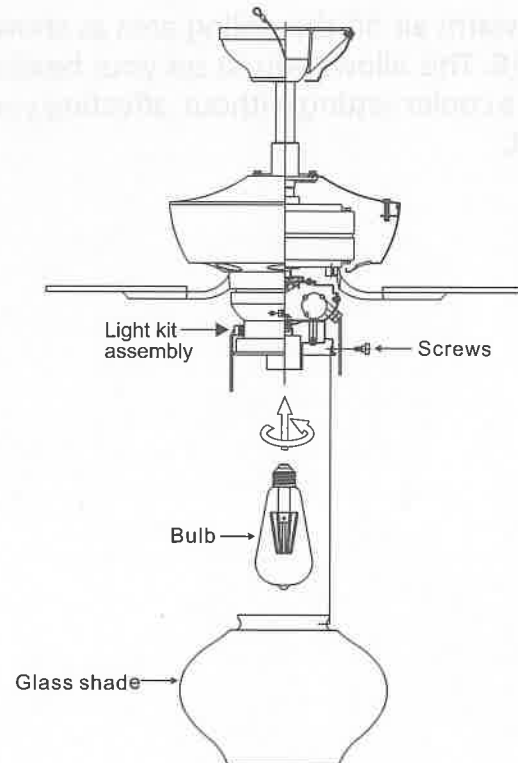

Figure 16
2. Install the glass shade to the light kit assembly with 3 screws provided. (Fig. 16)